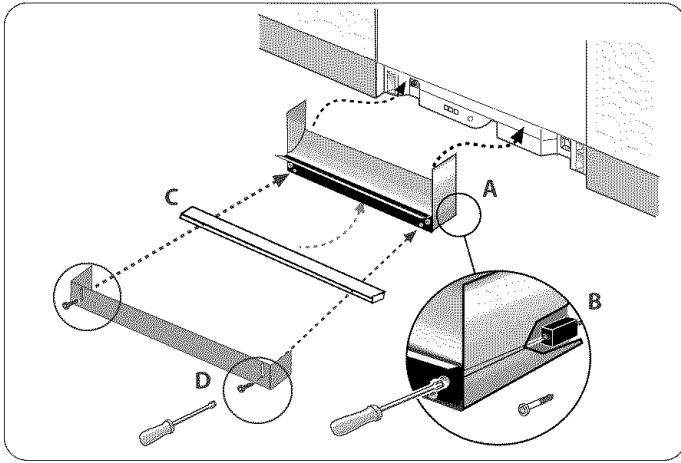

Figure 31
- 1) Place the Base Part under and up the front bottom panel of the dishwasher, as shown in Figure 31.
- 2) Insert the Base Part screws (Figure 1, letter O) into the Base Part, as shown in Figure 31, letter B. Tighten the Base Part Screws.
- 3) Place the Cotton Insulation Strip (Figure 1, letter C) under the unit, between the bottom of the Base Part and the floor, as shown in Figure 31, letter C.
- 4) Place the toe panel over the Cotton Insulation Strip, and use the toe panel screws (Figure 1, letter N) to secure the toe panel in place, as shown in Figure 31, letter D.